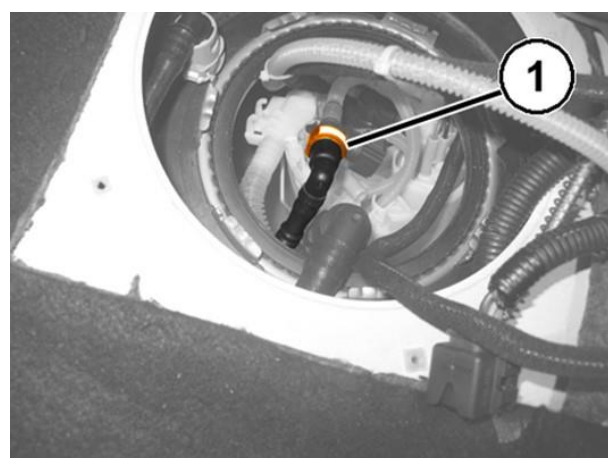

Figure 7 – Separator Coupling
17. Disconnect the quick coupling (1) from the separator (Figure 7).